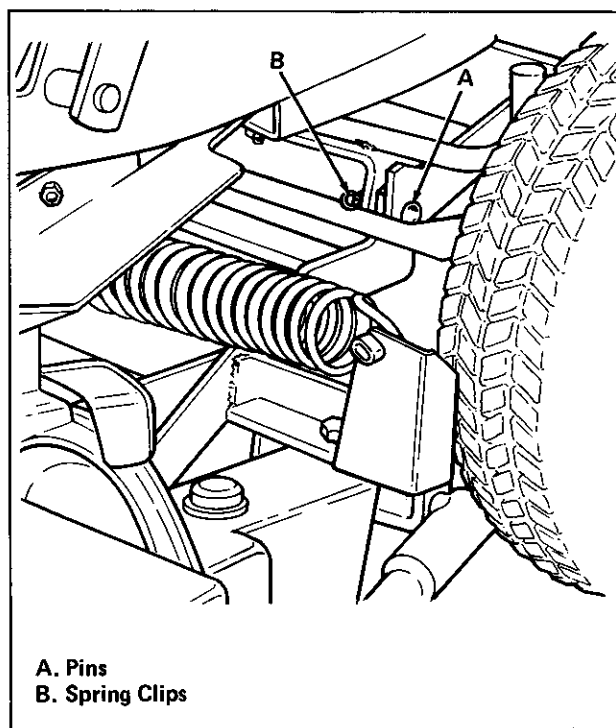

Figure 1. Install Sickle Bar Mower to Tractor
1. Slide the sickle bar mower under the tractor from the right side. Use two pins (item A, figure 1) and spring clips (item B) to attach the mower to the front tractor axle.
7. Remove two spring clips and pins (items A and B, figure 1) from tractor hitch. Store spring pins and pins on mower hitch.